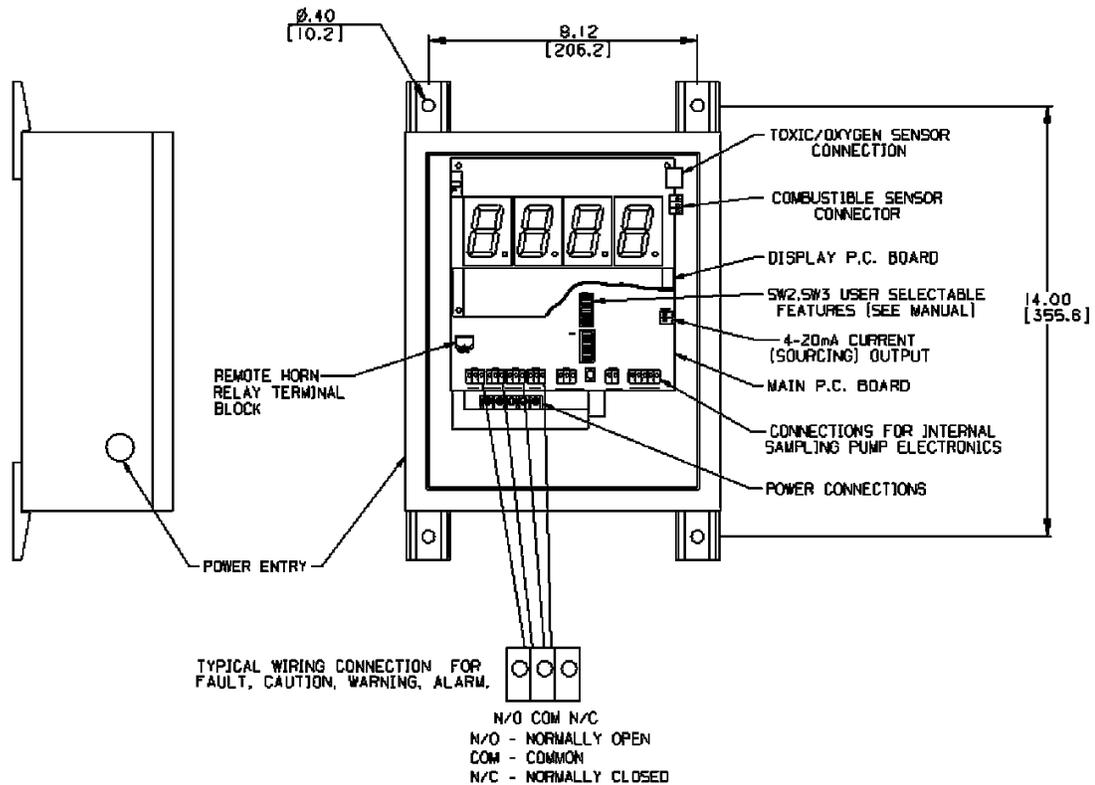

Fig. 6 Toxgard II Cable Entries
- Route power, ground, and (where applicable) signal wiring through the electrical entry holes in the case (Fig. 6 "Toxgard II Cable Entries").
- Relay contacts are brought out to the terminal block and used to control external lights, horns, and other equipment (Fig. 6 "Toxgard II Cable Entries").